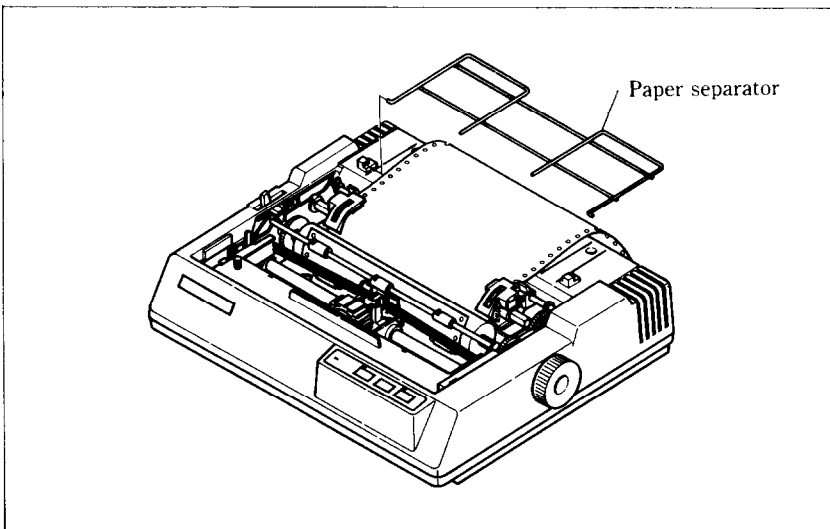

Figure 2-9. Ready to load the sprocket-feed paper.
11. Install the paper separator on the printer, as shown in Figure 2-9. Then, install the printer cover.